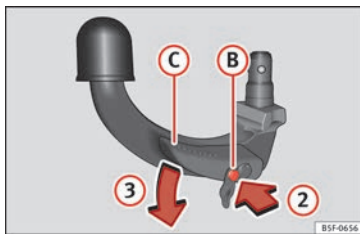

Fig. 180 Step 2.
- Press the release bolt (B) in the direction of arrow ②, and at the same time press lever (C) in the direction of arrow ③ as far as it will go »» Fig. 180.